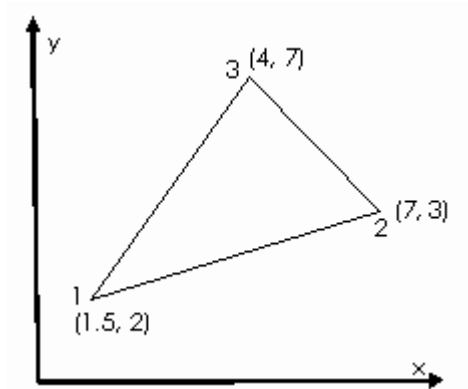

Figure: 2
4. For the triangular element shown in figure 2. Determine the Jacobian matrix and strain – displacement matrix. [16]